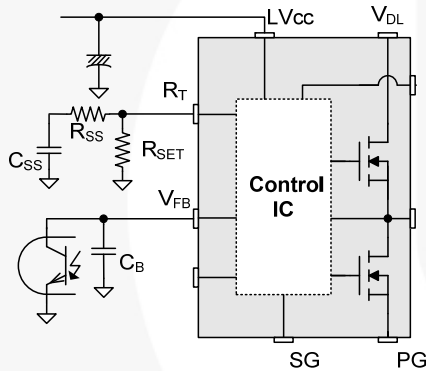

Figure 24. External Soft-Start Circuit
4. Soft-Start: At startup, the duty cycle starts increasing slowly to establish the correct working conditions for transformers, inductors, and capacitors. The voltage on the output capacitors is progressively increased to smoothly establish the required output voltage. Soft-start time is internally implemented for 15 ms (when the operating frequency is set to 100 kHz.) In addition, to help the soft-start operation, a capacitor and a resistor would be connected on the R_T pin externally, as shown in Figure 24. Before the power supply is powered on, the